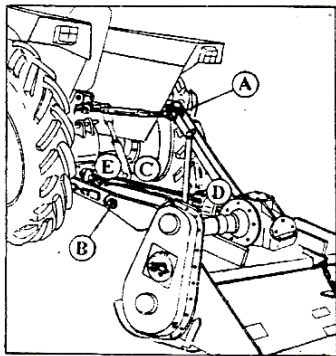

Figure 4. Attaching the mower.
3. Attach the upper linkage to the top point support on the mower frame (Fig. 4, pos. A).
4. Attach the left lower linkage (and the stabiliser link, if used) to the left rotary mower trunnion, and secure it in this position with the provided keys (Fig. 4, pos. B).
5. Attach the right lower linkage (and the stabiliser link, if used) to the right rotary mower trunnion, and secure it in this position with the provided keys (Fig. 4, pos. C).
6. Attach the front end of the PTO shaft (the end with the friction clutch) to the connecting shaft of the mower and secure it in this position (Fig. 4, pos. D).
8. After attaching the machine to the tractor as described above, bring the centre line of the reduction gear in the horizontal position by extending or shortening the upper linkage as shown in Fig. 4.
2. Sitting in the driver's seat, decouple the upper linkage end (Fig. 4, pos. A) from the tractor while moving slowly forward or backward with the tractor, if necessary, for easy removal of the pin.
3. Remove the front PTO shaft joint from the tractor connecting shaft (Fig. 4, pos. E).
4. Detach the right lower linkage using, if necessary, the levelling lever on the tractor in order to make the entire detaching process easier (Fig. 4, pos. D).
5. Detach the left lower linkage (Fig. 4, pos. B).